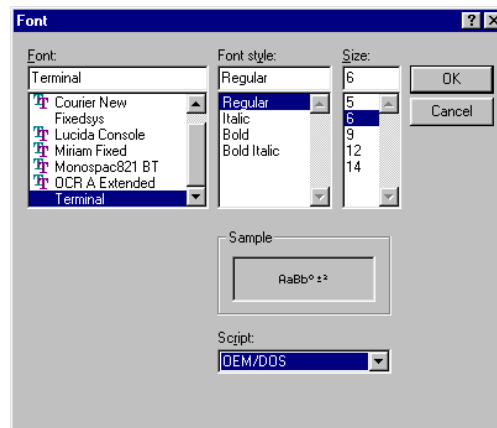

Figure 96: Font selection screen
4. Click **View**, then click **Font** and configure the font settings as shown in Figure 96. This ensures that the data is presented in the terminal window without wrapping from line to line. You may need to experiment with these settings to obtain an acceptable presentation in the terminal window. Click **OK** when finished.